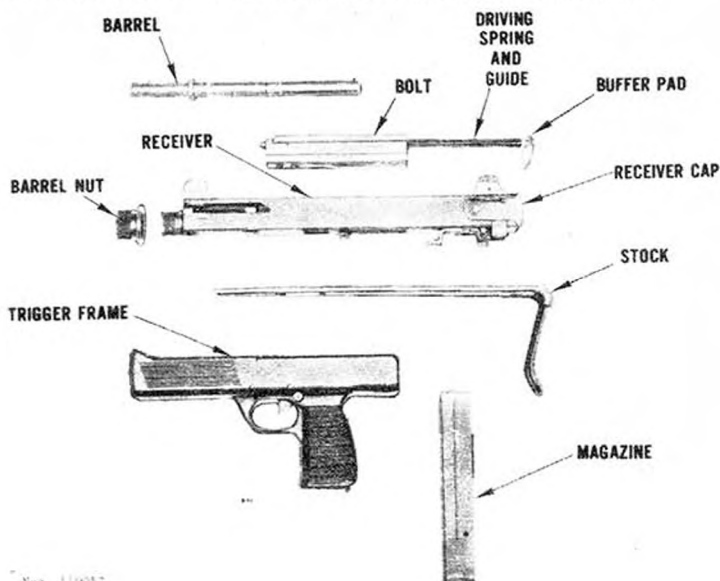

Figure 53. MPi Steyr 69 disassembled.
e. Remove the trigger frame assembly (fig 53) by gently tapping it forward on the receiver until the rear of the trigger frame can be pulled away from the receiver and separated. **DO NOT USE EXCESSIVE FORCE.** The trigger frame fits tightly on the receiver, but it can be removed with minimum force.
b. Press in the rounded end of the driving spring guide where it protrudes through the receiver cap (fig 52). Swing the receiver cap upward to open the rear of the receiver. Grasp the sides of the buffer pad (fig 53) and withdraw the bolt, buffer, and driving-spring unit.